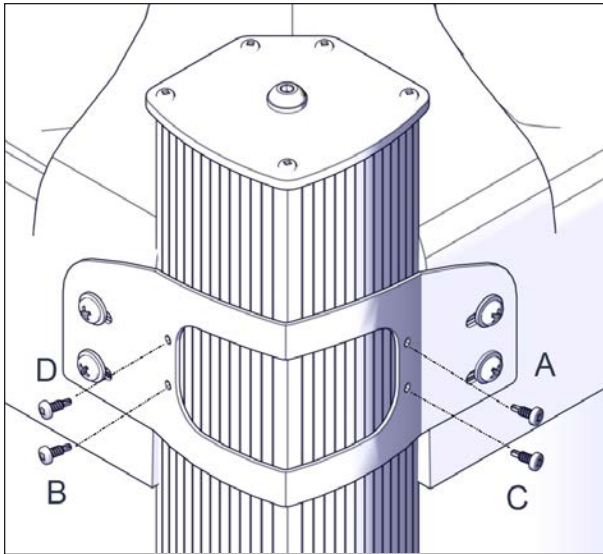

FIGURE 66: INSTALLATION PATTERN FOR CORNER BRACKET SCREWS ATTACHED TO THE SLEEVE
5. Install #8 x 1/2" self-tapping screws (4) to fasten the corner bracket to the sleeve and follow the pattern A to D shown in Figure 66.